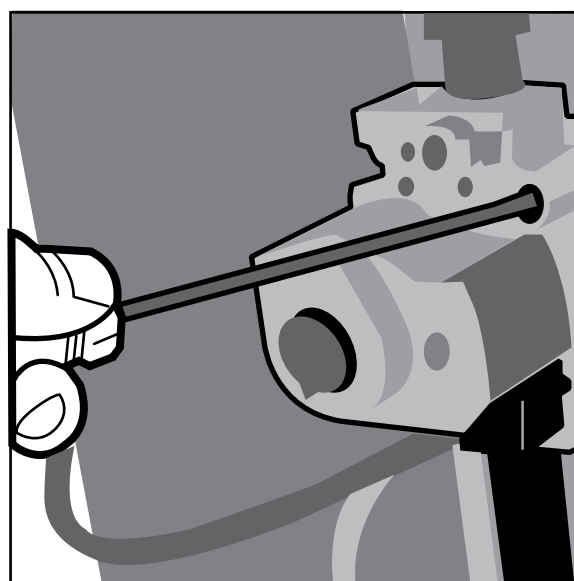

Figure F-2
- Adjust gas valve pressure regulator, if necessary, to change input rate (turn counterclockwise to decrease pressure and decrease input rate, see Figure F-2).